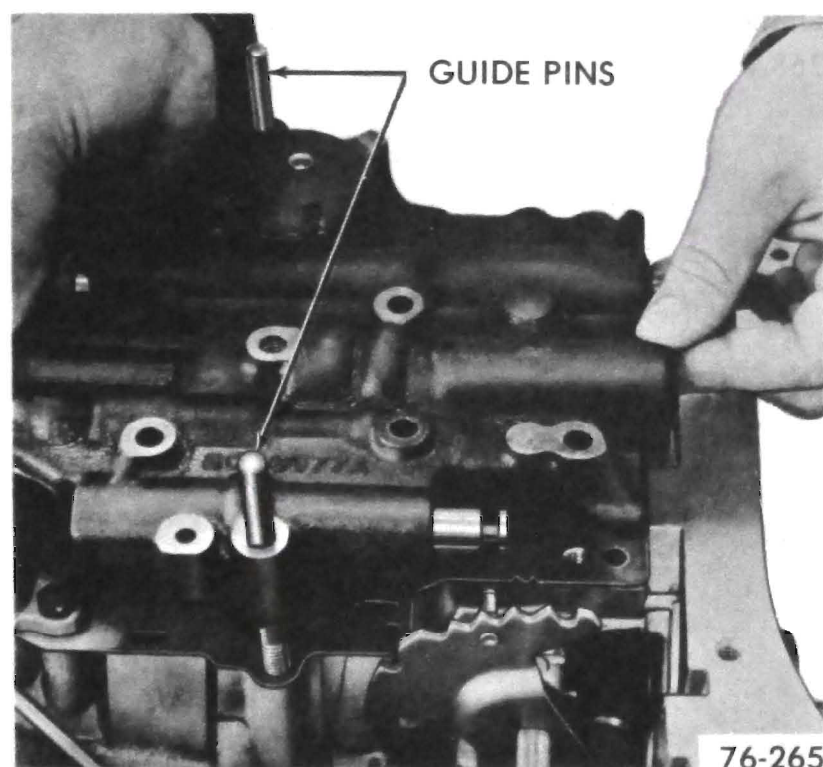

Figure 76-265
1. Install two control valve assembly attaching bolts with heads cut off as guide pins, as shown in Figure 76-265.
If transmission is in vehicle, before installing the control valve assembly and governor pipes, as outlined in Step 3 below, insert governor screen, closed end first, into governor feed pipe. (This pipe locates in the governor feed pipe hole in the case nearest the center of the transmission). See Figure 76-265.
4. Install control valve assembly and governor pipes on transmission, while carefully aligning the governor feed pipe over the governor screen. See Figure 76-265. Make certain gasket and spacer do not become mispositioned.